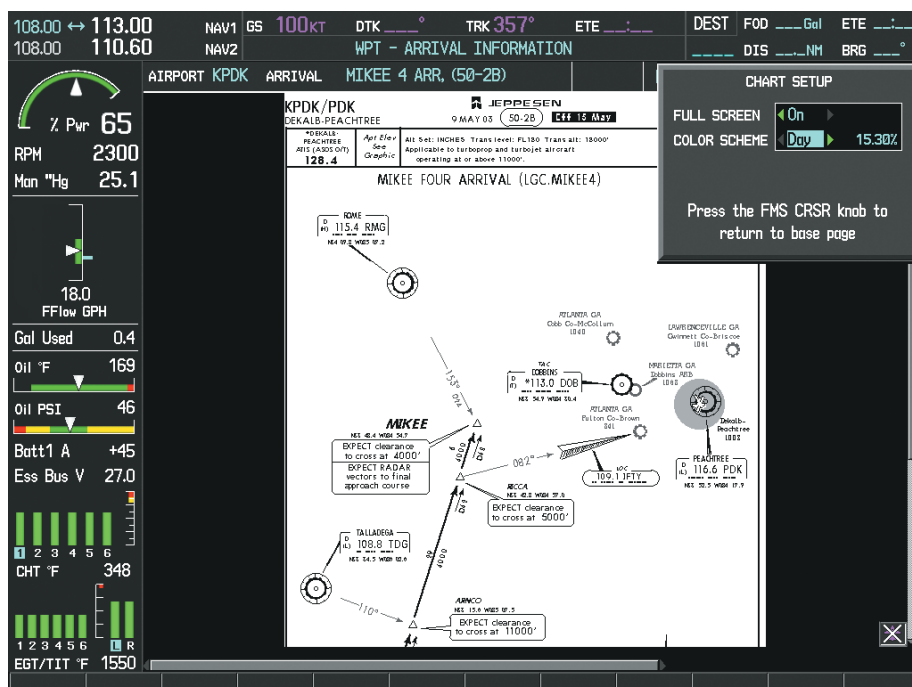

Figure 8-49 Arrival Information Page, Day View
- 3) Turn the large **FMS** Knob to move to the COLOR SCHEME Option (Figure 8-49).